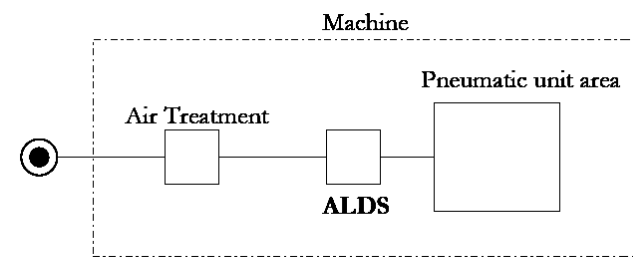

Figure 7
- The ALDS device is normally installed on the compressed air supply line of the machine to be checked, see Figure 7.